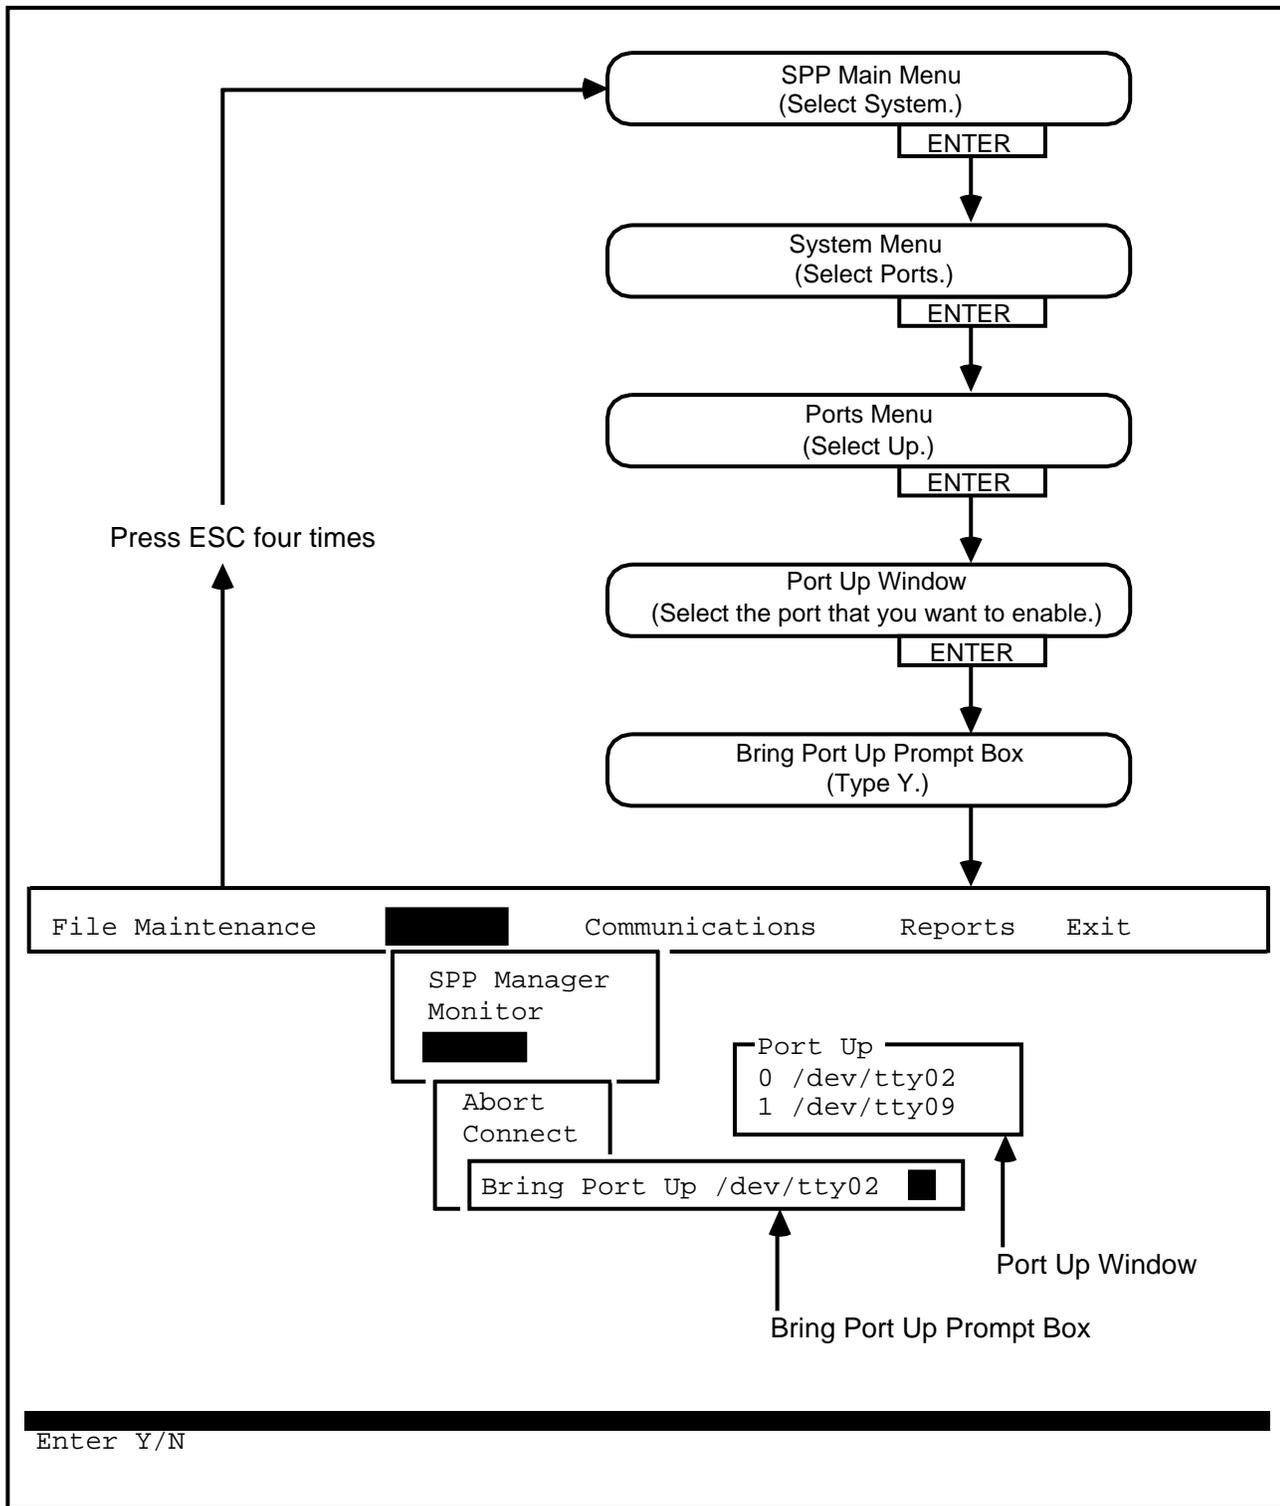

Fig. 4-7
4.16 The Bring Port Up prompt box (see Fig. 4-7) is used to restore a port which has been put down temporarily by way of the procedure "Temporarily Disabling a Port". To enable a temporarily disabled port, proceed as follows: